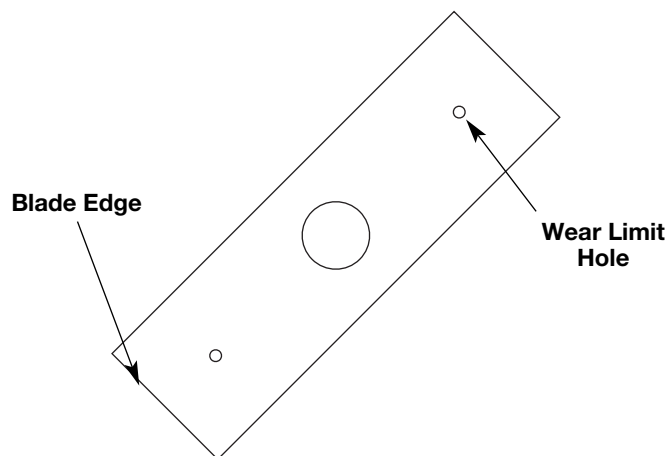

Fig. 14
- Check the blade condition. As it wears it becomes smaller, thus reducing the cutting depth performance. Replace with a new blade when the blade has worn to the blade's wear limit holes (Fig. 14).